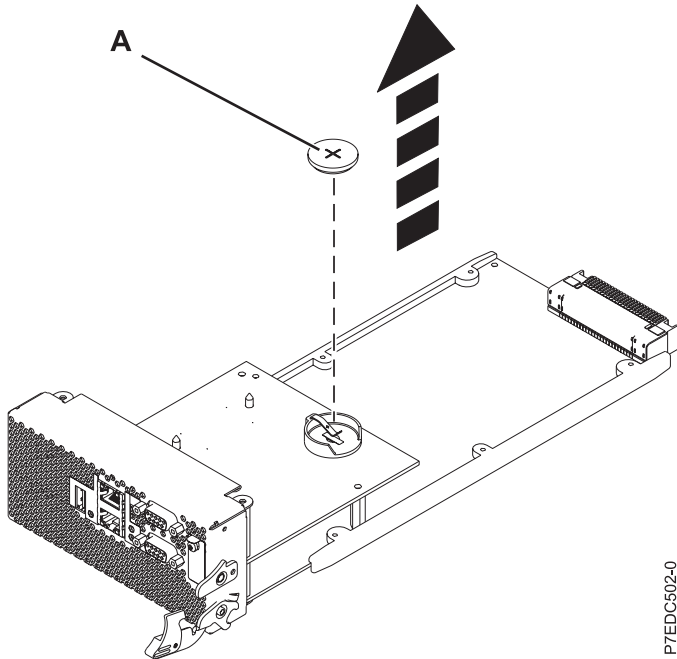

Figure 3. Removing the time-of-day battery
Attention: When removing the battery, do not use a metallic tool to disengage it from its slot. Remove the time-of-day battery (A) from the slot on the service processor card, being careful to observe the polarity (+/-) of the battery. See Figure 3 on page 6.